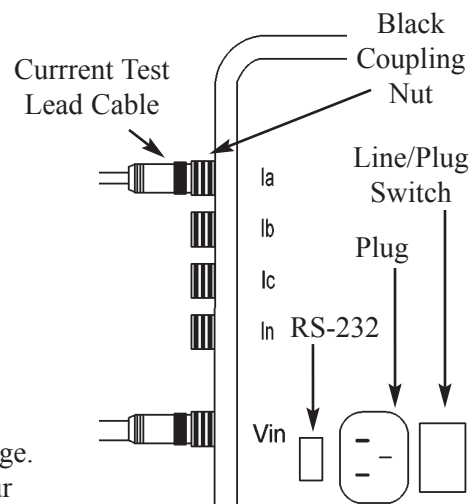

Fig. 3.1: Connectors
4. Plug the Voltage Input Cable into the PDA and rotate the black coupling nut to secure (Fig 3.1, 3.2).
5. Plug the Current Input Cable into the PDA and rotate the black coupling nut to secure (Fig 3.1, 3.2).